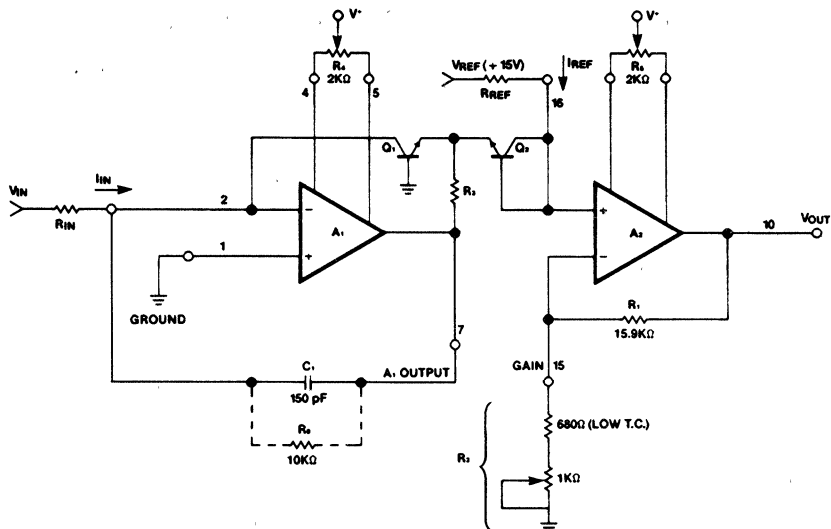
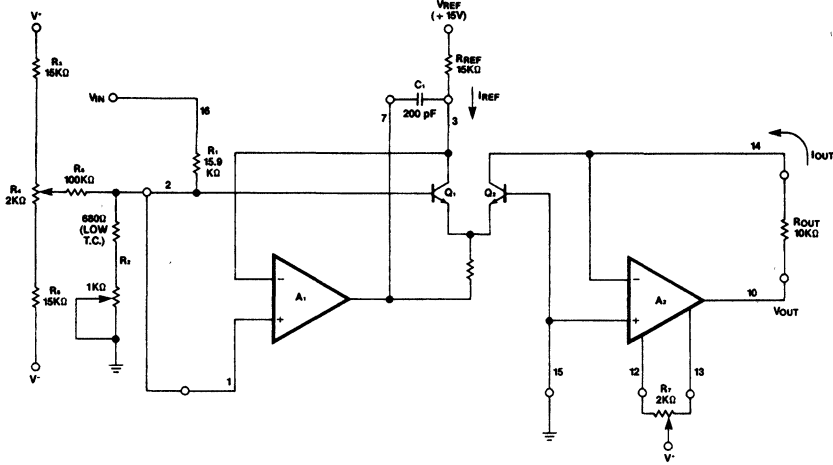
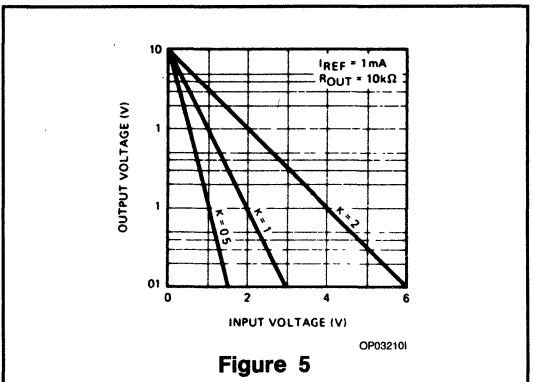
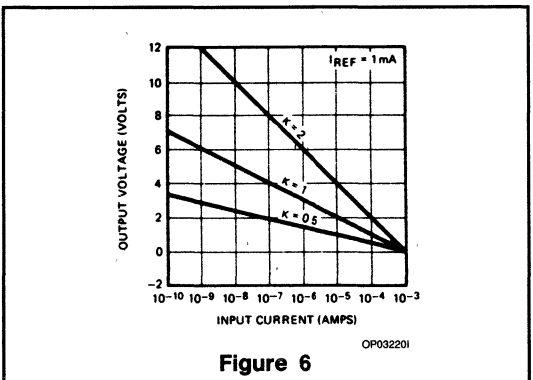

Figure 3: ICL8048 Offset and Scale Factor Adjustment
Figure 4: ICL8049 Offset and Scale Factor Adjustment
Figure 5
Figure 6
Referring to Figure 3, it is clear that the potential at the collector of Q_2 is equal to the ΔV_{BE} between Q_1 and Q_2 . The output voltage is ΔV_{BE} multiplied by the gain of A_2 :
A log amp, unlike an op-amp, cannot be offset adjusted by simply grounding the input. This is because the log of zero approaches minus infinity; reducing the input current to zero starves Q_1 of collector current and opens the feedback loop around A_1 . Instead, it is necessary to zero the offset voltage of A_1 and A_2 separately, and then to adjust the scale factor. Referring to Figure 3, this is done as follows:
The ICL8049 relies on the same logarithmic properties of the transistor as the ICL8048. The input voltage forces a specific ΔV_{BE} between Q_1 and Q_2 (Figure 4). This V_{BE} difference is converted into a difference of collector currents by the transistor pair. The equation governing the behavior of the transistor pair is derived from (2) on the previous page and is as follows:
As with the log amplifier, the antilog amplifier requires three adjustments. The first step is to null out the offset voltage of A_2 . This is accomplished by reverse biasing the base-emitter of Q_2 . A_2 then operates as a unity gain buffer with a grounded input. The second step forces $V_{IN} = 0$; the output is adjusted for $V_{OUT} = 10V$. This step essentially "anchors" one point on the transfer function. The third step applies a specific input and adjusts the output to the correct voltage. This sets the scale factor. Referring to Figure 4, the exact procedure for 1 decade/volt is as follows:
By adjusting R_2 (Figure 3 and Figure 4) the scale factor "K" in equation 9 and 10 can be varied. The effect of changing K is shown graphically in Figure 5 for the log amp, and Figure 6 for the antilog amp. The nominal value of R_2 required to give a specific value of K can be determined from equation 11. It should be remembered that R_1 has a $\pm 20\%$ tolerance in absolute value, so that allowance shall be made for adjusting the nominal value of R_2 by $\pm 20\%$.
Although the op-amps in both the ICL8048 and the ICL8049 are compensated for unity gain, some additional frequency compensation is required. This is because the log transistors in the feedback loop add to the loop gain. In the 8048, 150 pF should be connected between Pins 2 and 7 (Figure 3). In the 8049, 200 pF between Pins 3 and 7 is recommended (Figure 4).